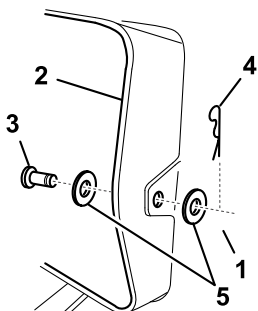

Figure 18
6. Raise the grass collector and remove the hairpin, 2 washers, and clevis pin that secure the discharge tube to the rear plate (Figure 18).
15. Raise the grass collector and install the clevis pin, 2 washers, and hairpin to secure the discharge tube to the rear plate (Figure 18).
6. Raise the grass collector and remove the hairpin and clevis pin that secure the discharge tube to the rear plate (Figure 18).
12. Raise the grass collector and install the clevis pin and hairpin to secure the discharge tube to the rear plate (Figure 18).